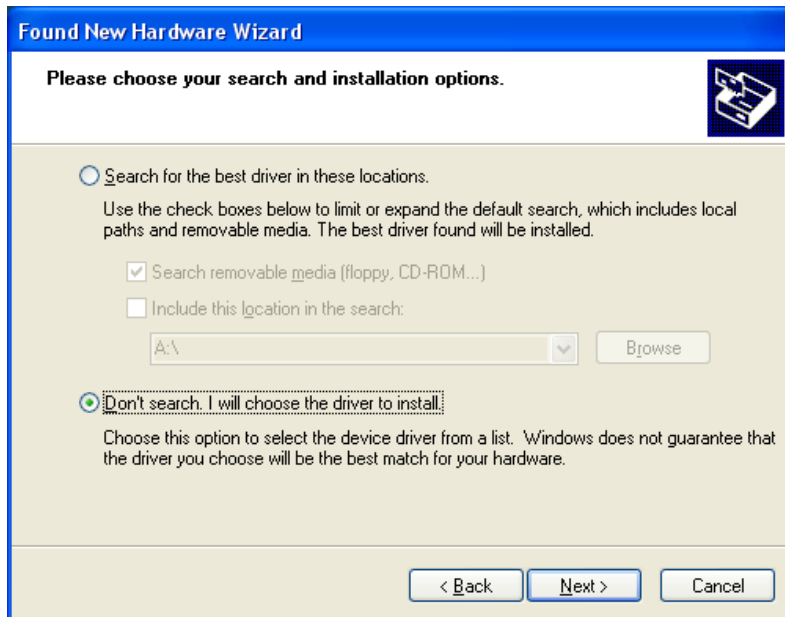

Fig. 2-8 Choose the driver manually
- 2) Select “Install from a list of specific location (Advanced)”, click [Next] to continue, as shown in Fig. 2-8.